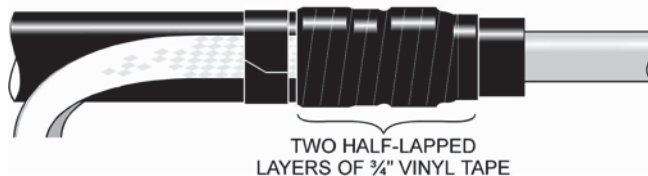

FIGURE 5
STEP 16: TIGHTLY WRAP TWO HALF-LAPPED LAYERS OF 3/4" VINYL TAPE AROUND THE CONSTANT TENSION SPRING, THE EXPOSED LC SHIELD, AND THE MASTIC, TO THE EDGE OF THE COLOR CODING TAPE. SEE **FIGURE 5.**